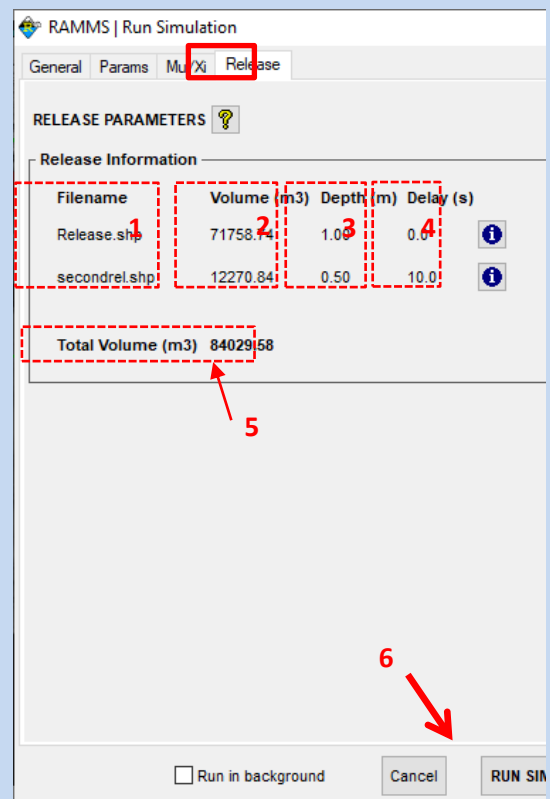

Figure 3-55: Release information.
- Click run simulation (Figure 3-55)